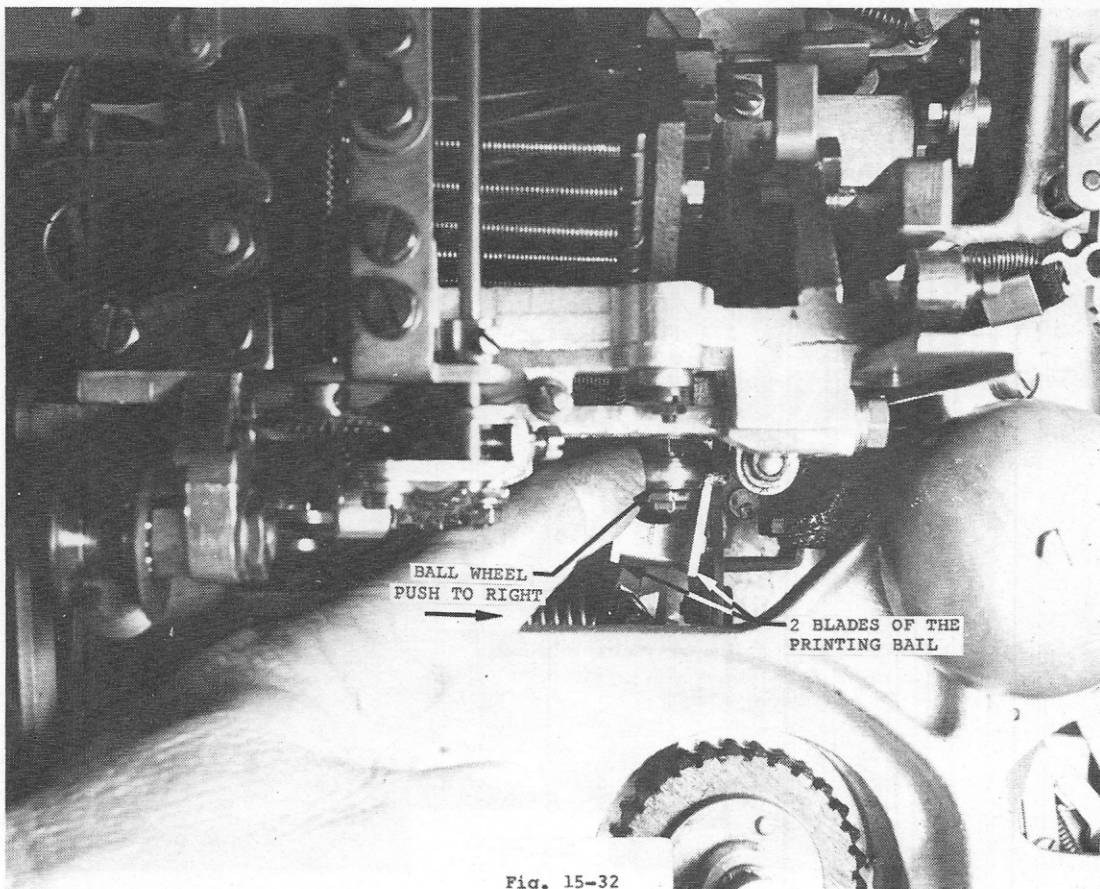

Fig. 15-32
- 16) You will engage only two or three vanes. Now you must look underneath the typing unit from the right end. There is a ball-wheel (Fig. 15-32); it must be pushed forward in order to get it in between the two blades of the printing bail.